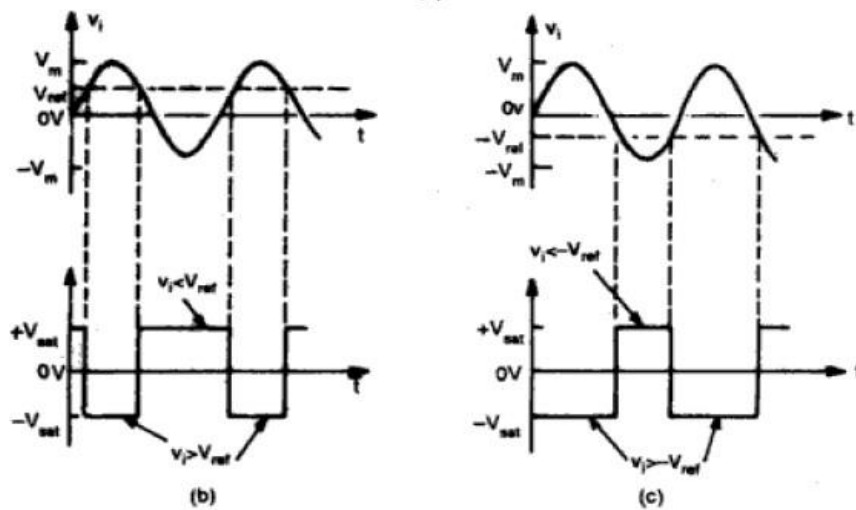

Fig. 5.3 (a) Inverting comparator. Input and output waveforms (b) $V_{ref} > 0$
- Figure 5.3(a) shows a practical inverting comparator in which the reference voltage V_{ref} is applied to the +input and V_i is applied to the -ve input.
- For a sinusoidal input signal, the output waveform is shown in figure 5.3(b) and 5.3(c) for V_{ref} +ve and -ve respectively.